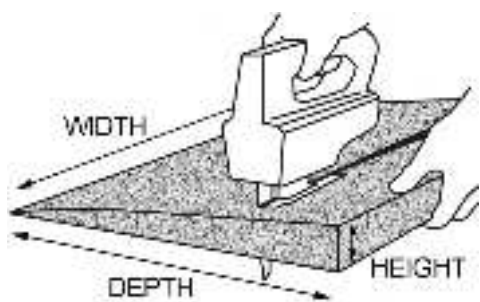

FIG. 2
- 5.1 The mat can be easily trimmed to accommodate lower heights and, if necessary, notched to suit the doorjamb configuration. If the raised landing is less than the height of the mat, trim mat to the desired height (FIG. 2).